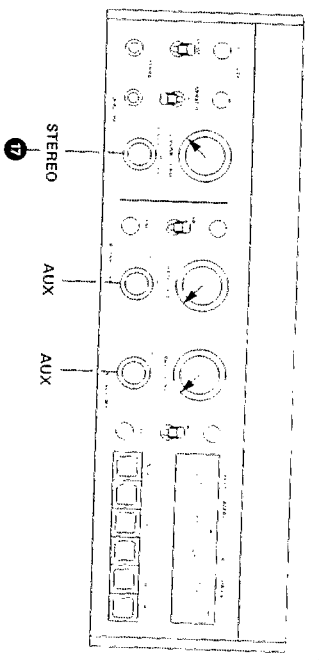

Fig. 6.4-1
- Adjust operating controls as per Fig. 6.4-1.
- Connect audio wattmeter to OUTPUT (potentiometer LEVEL (5) fully open).
- Connect audio generator to feed the sockets AUX INPUT (4) parallel. Select frequency of 1000 Hz and adjust generator level until a reading of 0.775 V is obtained on the audio voltmeter. The required input level should be 20 mV approx.
- Note: At all positions of the mode selector (MONITOR (17)), the difference in output level must not exceed 0.5 dB.
- Remarque:** Les différences de niveau à la sortie, pour les positions du sélecteur MONITOR (17), ne doivent pas dépasser 0,5 dB au maximum.